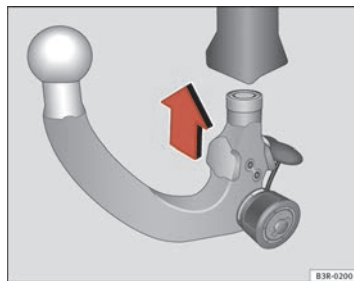

Fig. 167 Removable towing bracket: Inserting the ball joint
- With the spring mechanism in the ready position, insert the ball joint into the mounting fixture and push it upwards ⇒ page 205, fig. 167 in the direction indicated (arrow) ⇒ **!**. It should lock into position automatically. You should now clearly hear it click into place.